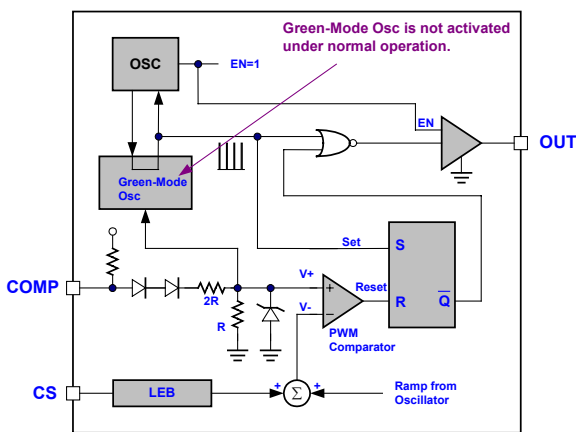

Fig. 10
What LD7552 used to implement the power-saving operation is Leadtrend Technology's own IP^②. In such approach, as shown in the block diagram, 2 oscillators are implemented in LD7552. The first oscillator is to take care the normal switching frequency, which can be set by the RT pin through an external resistor. Under this operation mode, as shown in Fig. 10, the 2nd oscillation (green-mode oscillator) is not activated. Therefore, the rising-time and the falling-time of the internal ramp will be constant to achieve good stability over all temperature range. Under the normal operation, this oscillator is dominated the switching frequency.